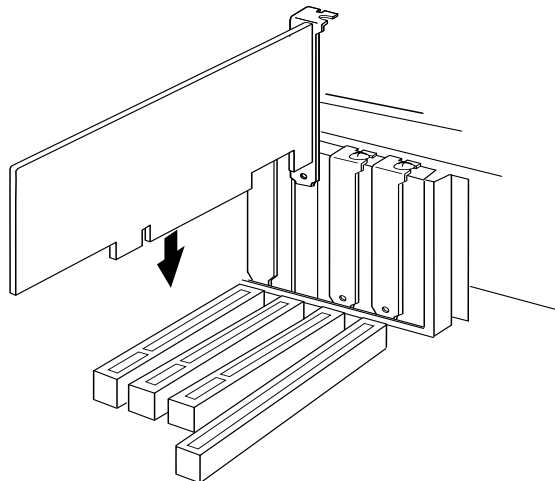

Figure 2-4. Inserting the Host Adapter
- 5 Position the host adapter directly over the PCI slot and insert the end of the board in the card guide. Carefully press the bus connector on the bottom of the host adapter down into the slot, as shown in Figure 2-4. Be sure the metal contacts on the bottom of the host adapter are securely seated in the slot.